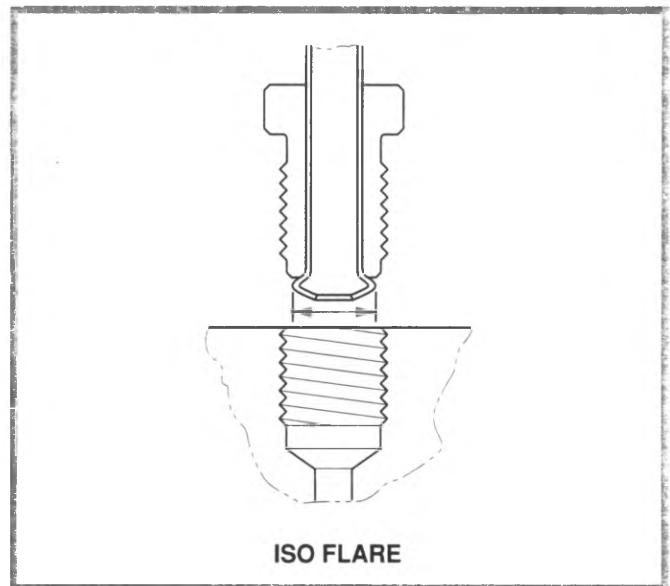

Figure 4-18, ISO Flare
14. Measure the flare diameter (figure 4-18). It should fall between 0.272 in. to 0.286 in. (6.92 mm and 7.28 mm).